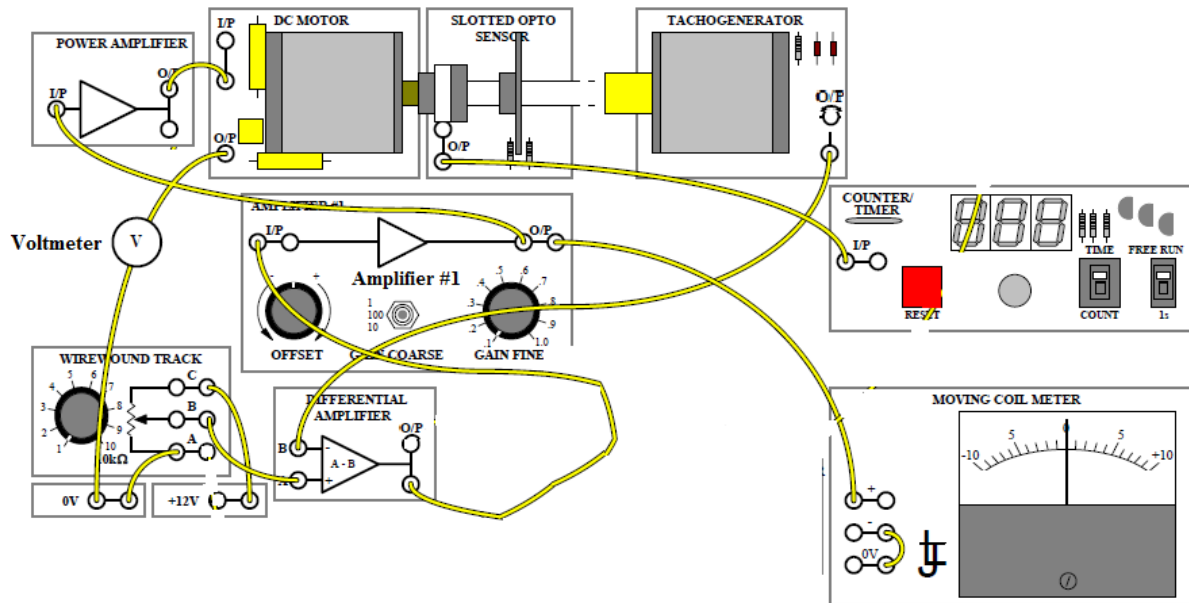

Figure 2. Speed regulation with P control
- 2.1.4. Consider the tacho generator (Connect Figure 2 **excluding Amplifier #1**). Rotate the DC motor in different speeds. Collect data of tacho-generator output versus the speed in rpm using LED display device with slotted opto-transducer. Rotate the motor at 4, 6, 8, 10, ..., 26 rev/s.
Set up the circuit given in Figure 2.